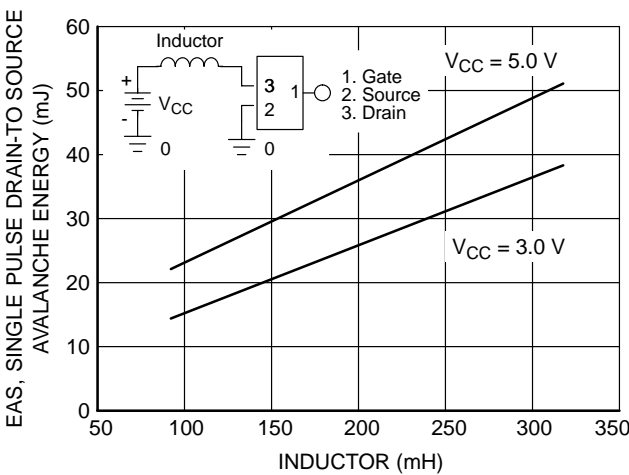

Figure 12. Avalanche Energy
- Refer to the section covering Avalanche and Energy and Figure 12.
The drain-to-source clamp, internal to the NUD3105, is designed to protect the device during avalanche energy produced by a load such as an inductor or relay. In many cases, the upper limit of this clamp will be a function of the current through it and the drain-to-source breakdown voltage. The maximum material voltage of the NUD3105 is between 12 and 13 volts. Thus, as the breakdown exceeds 13 V, the device will fail due to the material voltage. This 12 V and 13 V on the clamp corresponds to a current through the clamp of 320 to 440 mA, respectively. The avalanche energy graph, given in Figure 12, is actually limited by the material voltage and the clamp current.